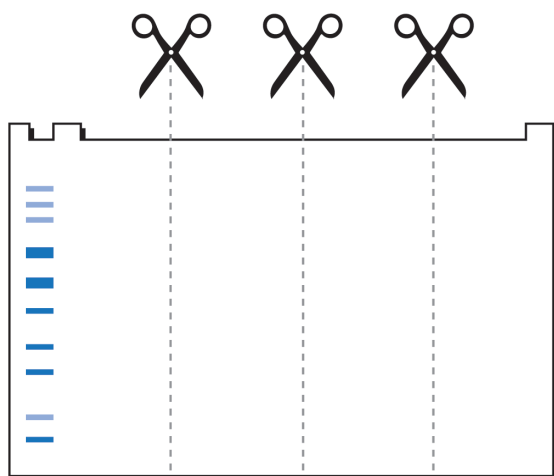

Figure 2. Cut the membrane into four individual blots for blocking buffer optimization.
- Cut the membrane into four individual blots, as shown in Figure 2.